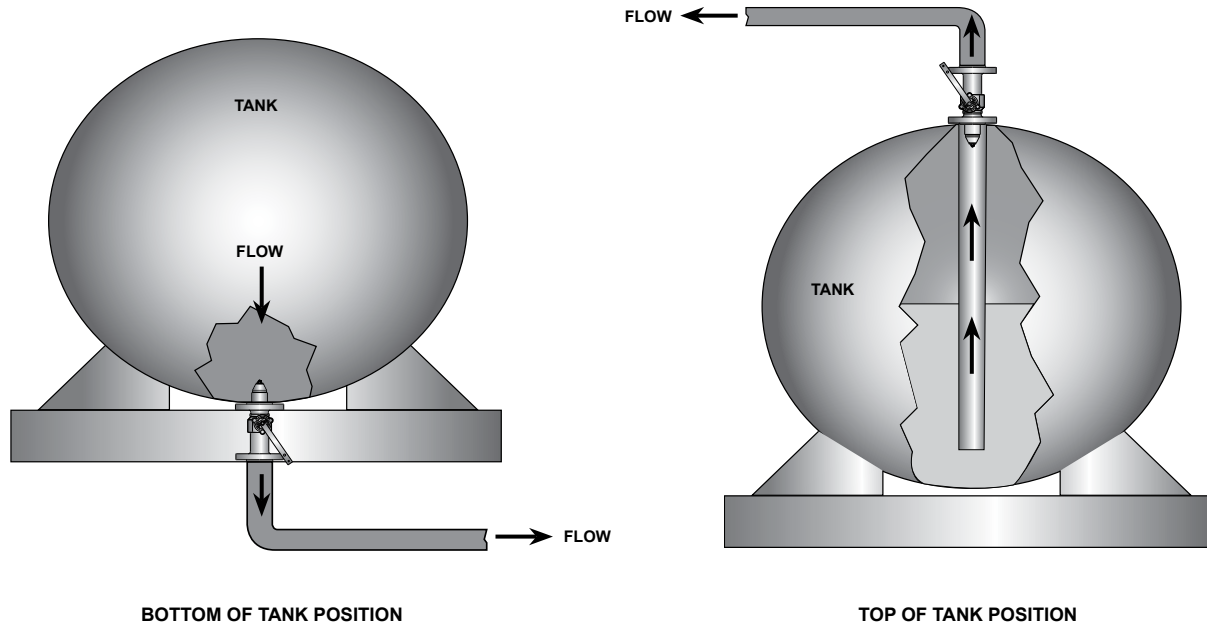

Figure 6. Internal Valve Flow Positions
1. See Internal Valve Flow Positions (Figure 6) for description of Bottom of Tank, Top of Tank and Horizontal Flow Positions.